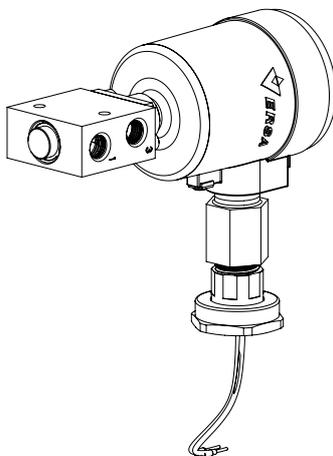
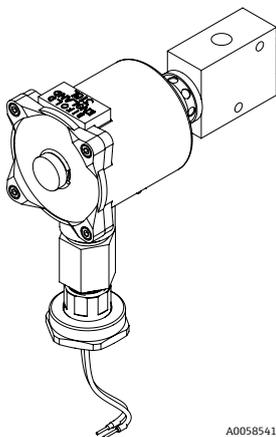

Figure 13. Removed solenoid valve
Figure 14. Bifold valve assembly
- Pull the solenoid valve, barrier, and upper end of the union out of the sample conditioning system (refer to Figure 13 and Figure 14).